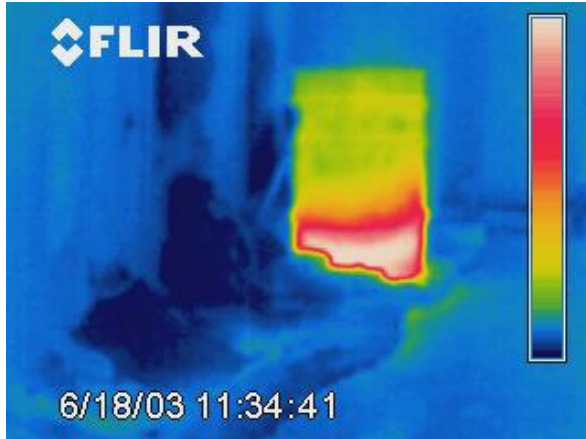

Figure 3. Thermogram/photo showing the heated sodium hydrosulfite in a 32 gallon drum.
Fire occurred at a garment dying facility. We were called to perform emergency services and were on-site about 10 hours after the fire was knocked down. An infrared (IR) thermographic inspection revealed a potentially explosive drum of sodium hydrosulfite that was still hot hours after the fire was extinguished. Figure 3 shows the 32-gallon drum still sitting in the ashes of the fire. Water reacts with sodium hydrosulfite to produce poisonous hydrogen sulfide gas, and enough heat to cause spontaneous combustion and a potential explosion in the sealed container. A hazardous waste hauler, the fire department, and HAZMAT were called and disposed of the drum, preventing a possible catastrophe.